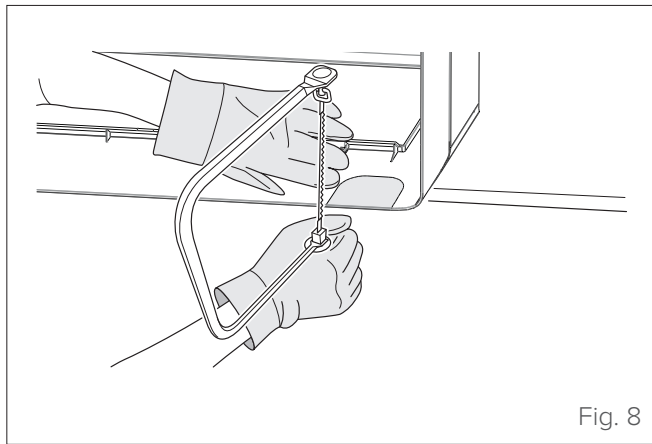

Fig. 8
- 1 Determine hole position according to the position of the mounting plate. To help you choose the optimal position, refer to point "Mounting plate dimensions". The hole in the wall should have a minimum diameter of 65 mm and a slight downward slope to facilitate drainage (see "Fig. 8").